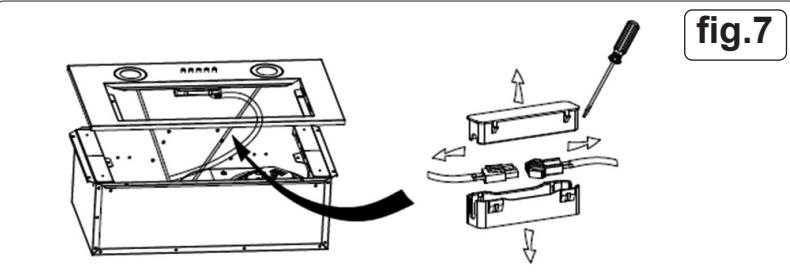

fig.7
- Open the lamp terminal box with the tool and remove the lamp terminal. See fig.7.